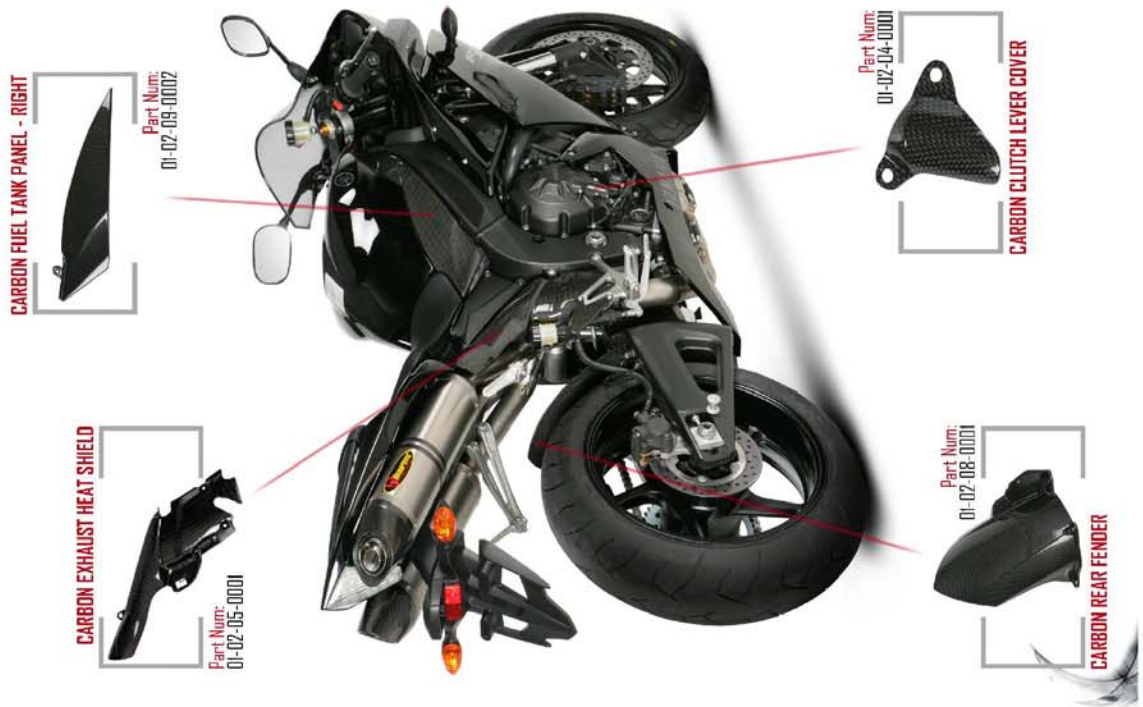

Figure 9
3. Schematic of the installed Akrapovic carbon-fiber parts (**Figure 9**).